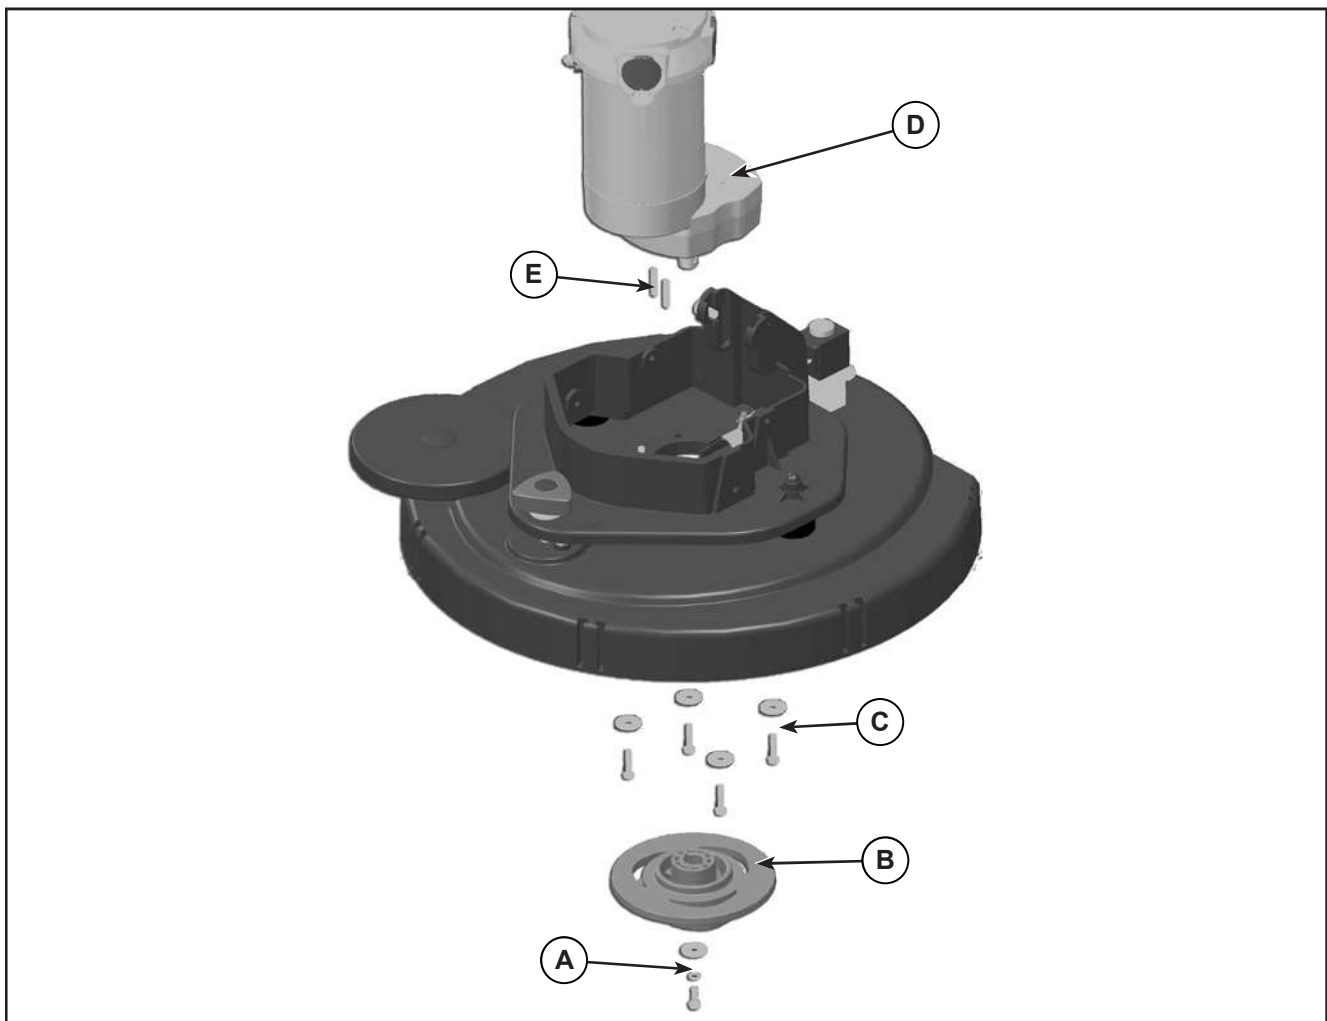

Figure 12:
2. Working at the bench, remove the screw (A) (Figure 12) of the brush motor.
3. Use a puller to remove the brush hub (B).
4. Remove the screws (C).
5. Remove the brush motor (D).
6. Recover the key (E).